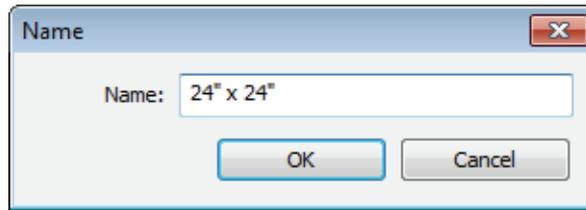

Figure 7–20
- In the Name dialog box, type a name as shown in Figure 7–20.
- Modify the dimensions as needed. Enter the required values for b (base) and h (height), as shown in Figure 7–21.